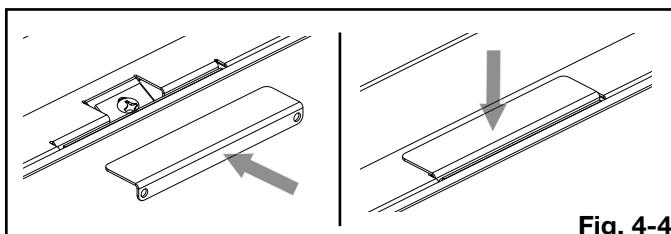

Fig. 4-4
- Cover the screw with the centre screw cover plate (supplied) (**Fig. 4-4**).